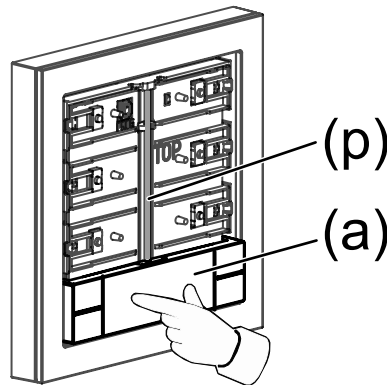

Figure 8: Press lightly in the middle of the rocker
- Push the rocker (a) into place on the axis (p) by pressing the centre of the rocker (a) (labelling field) (see figure 8).
Rocker (a) engages on axis (p) (see figure 8).